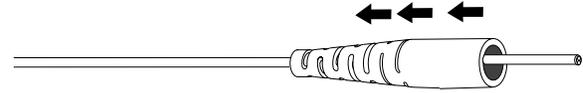

Figure 5-18
**5.5-1** Slide the 2.9 mm boot (small end first) down the cable until it is out of the way (Figure 5-18).